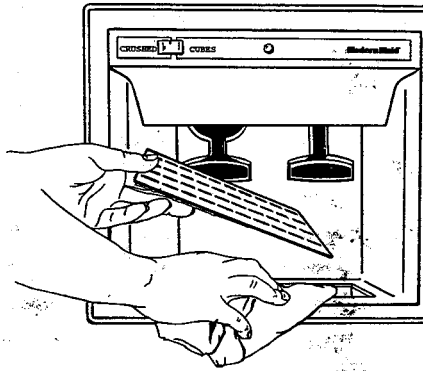
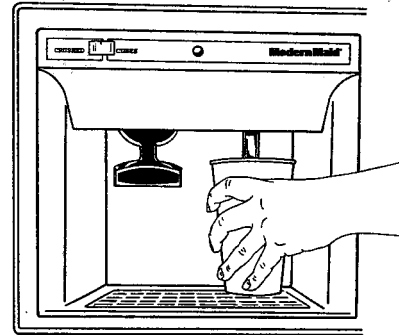

Figure 66
Figure 67
- Spill shelf is **not** self-draining, so excess water should be poured into sink or wiped dry immediately. See Figure 66.
- Release pressure on bar to shut off water. See Figure 67. Slight dripping may occur. Spill shelf is **not** self-draining, so large spills should be wiped dry immediately. See Figure 66.